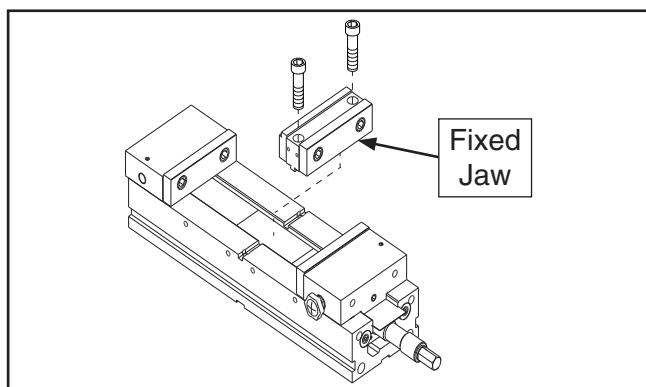

Figure 5. Removing center jaw.
1. Remove (2) cap screws attached to top of fixed jaw and remove jaw (see **Figure 5**).